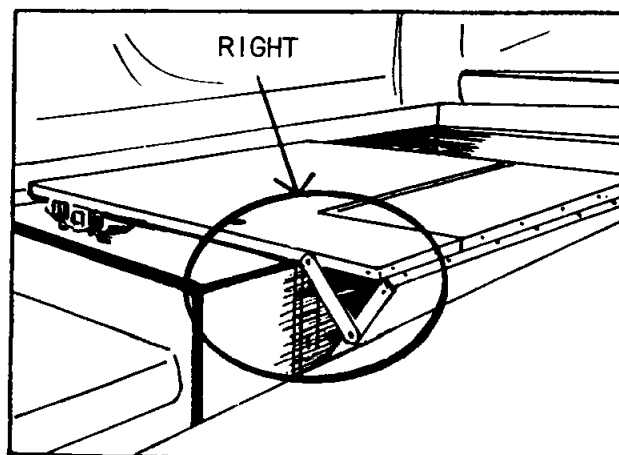

FIGURE 18 - RIGHT
25. Enter the trailer and note position of bathroom wall folded down. Note that the right side of the wall is between the galley cabinets and not folded "under itself." See Figure 18.